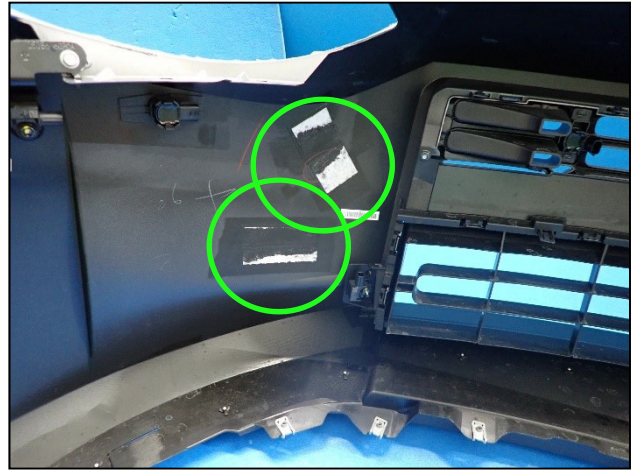
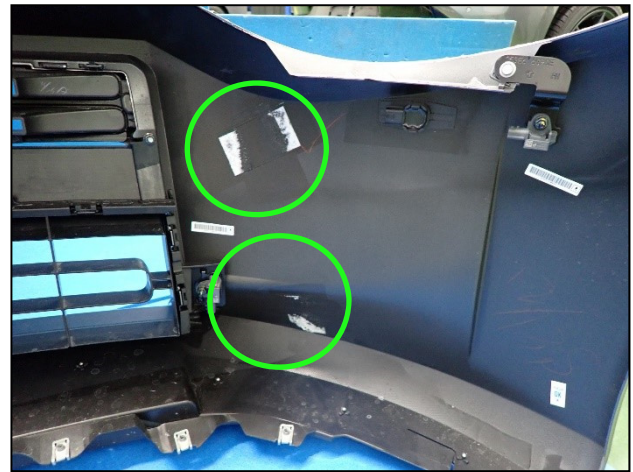

Figure 12
Figure 13
9. Remove any leftover protective tape cover or residue in the areas shown in Figure 12 and Figure 13 using a suitable brake cleaner and a clean shop towel.